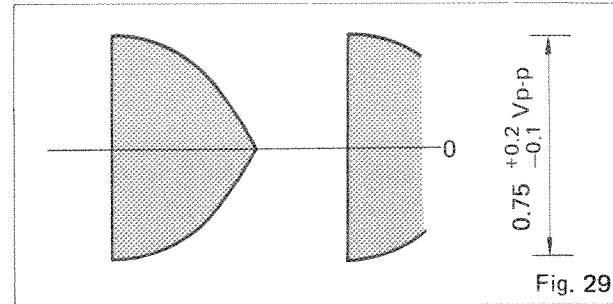

Fig. 29
2. Waveforms as provided in Figures 29 and 30 should be obtained when speed switch is set to the center position and $\sim / \nearrow / \sqcap$ controls set to each specified position in item E-1.